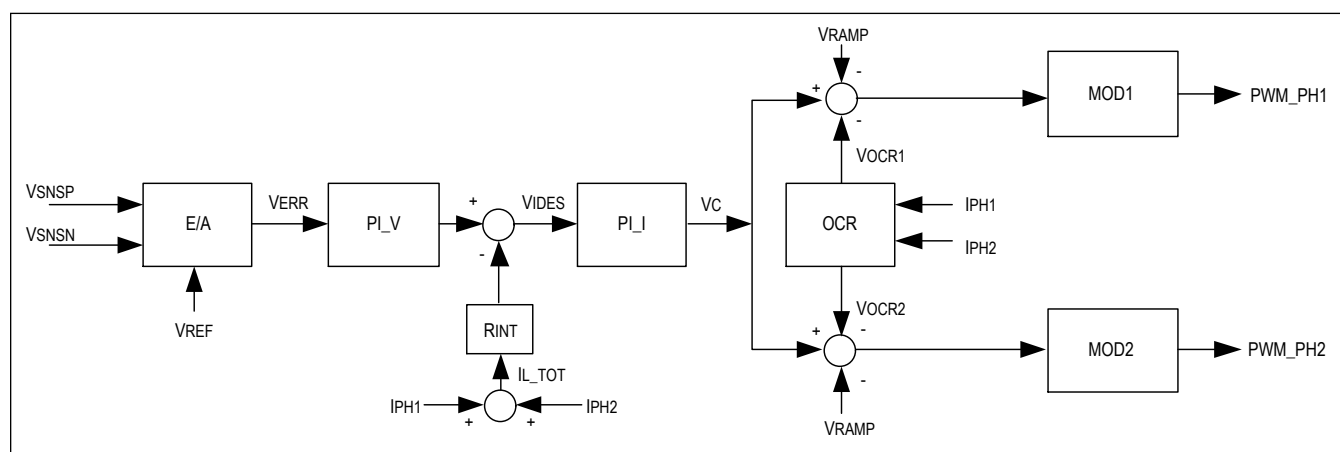

Figure 1. Simplified Control Architecture
The MAX20796 control loop is based on the multiphase peak current-mode control architecture. The loop contains multiple amplifier stages and modulator circuits that switch each phase based on its phase current. Figure 1 shows the internal amplifier stages of the controller and how phase-current information is used to generate the phase-control signals by using a two-phase system as an example. The first error amplifier stage is a differential amplifier, which provides an output equal to 2.2 times the error between the reference voltage and the differential remote-sense voltage. Its output voltage (V_{ERR}) is used as the input of the first proportional integral (PI) block used for voltage loop. Then the output voltage of the PI_V block minus the total sensed phase currents ($I_{L_TOT} \times R_{INT}$) are generated as the current-loop error amplifier input (V_{IDES}). After V_{IDES} is handled by another PI amplifier, its output (V_C) along with the slope compensation ramp (V_{RAMP}) and the current balancing info (V_{OCR}), are used for the PWM modulation (MOD) for each phase.